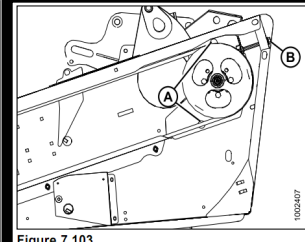

Figure 7.103
2. Loosen the two bolts (A) that secure the motor assembly to the header end sheet (see figure 7.103 at right).
3. Turn adjuster bolt (B) clockwise to move the drive motor until a force of 20 ft·lbf (80 N·m) deflects the belt 3/4 inches (18 mm) at mid-span.